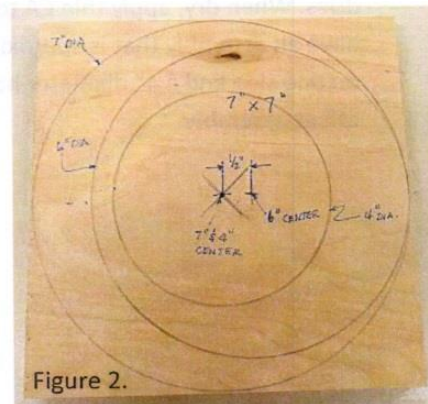

Figure 2.
2. Draw a 7" diameter circle centered on the 7" plywood square. Draw a 4" concentric circle using the same center as the 7" circle. Drill a small hole through the center to mark the center on both sides. Use a drill press or make sure the hole is perfectly perpendicular. Mark a new center $\frac{1}{2}$ " off the center of the 7" diameter circle and draw a 6" circle using this offset center (Figure 2). Cut out the 7" circle using a bandsaw or jigsaw.